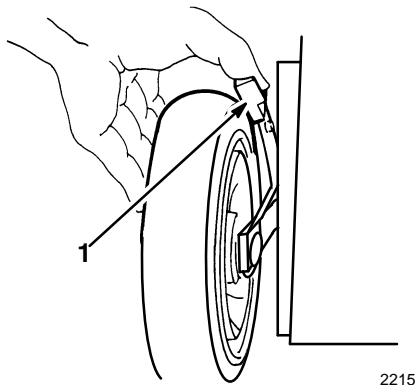

Figure 18
2. For easier adjustment, lift housing up so wheels are off ground. **Do not place hands under deck to lift housing.** Squeeze adjustment lever toward wheel and move lever to desired setting (Fig. 18). Ensure pin on adjustment lever engages notch in mower housing. Adjust all wheels to the same setting.